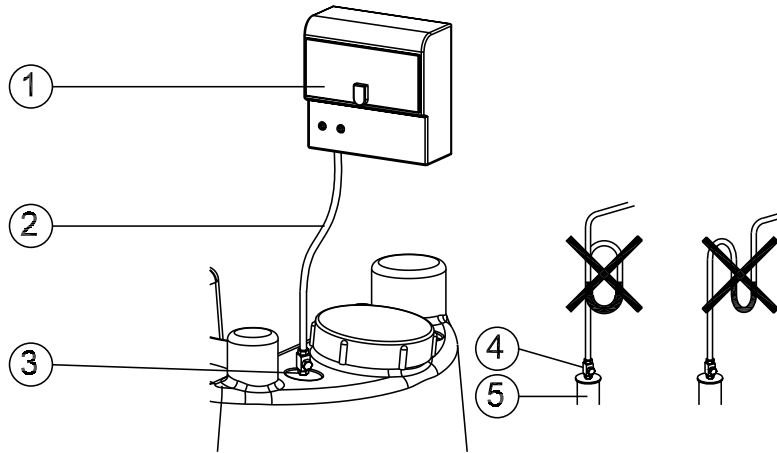

Figure 13: Installation of control line (plastic hose)
Control line (2) has a continuous rise as shown in Figure 13.